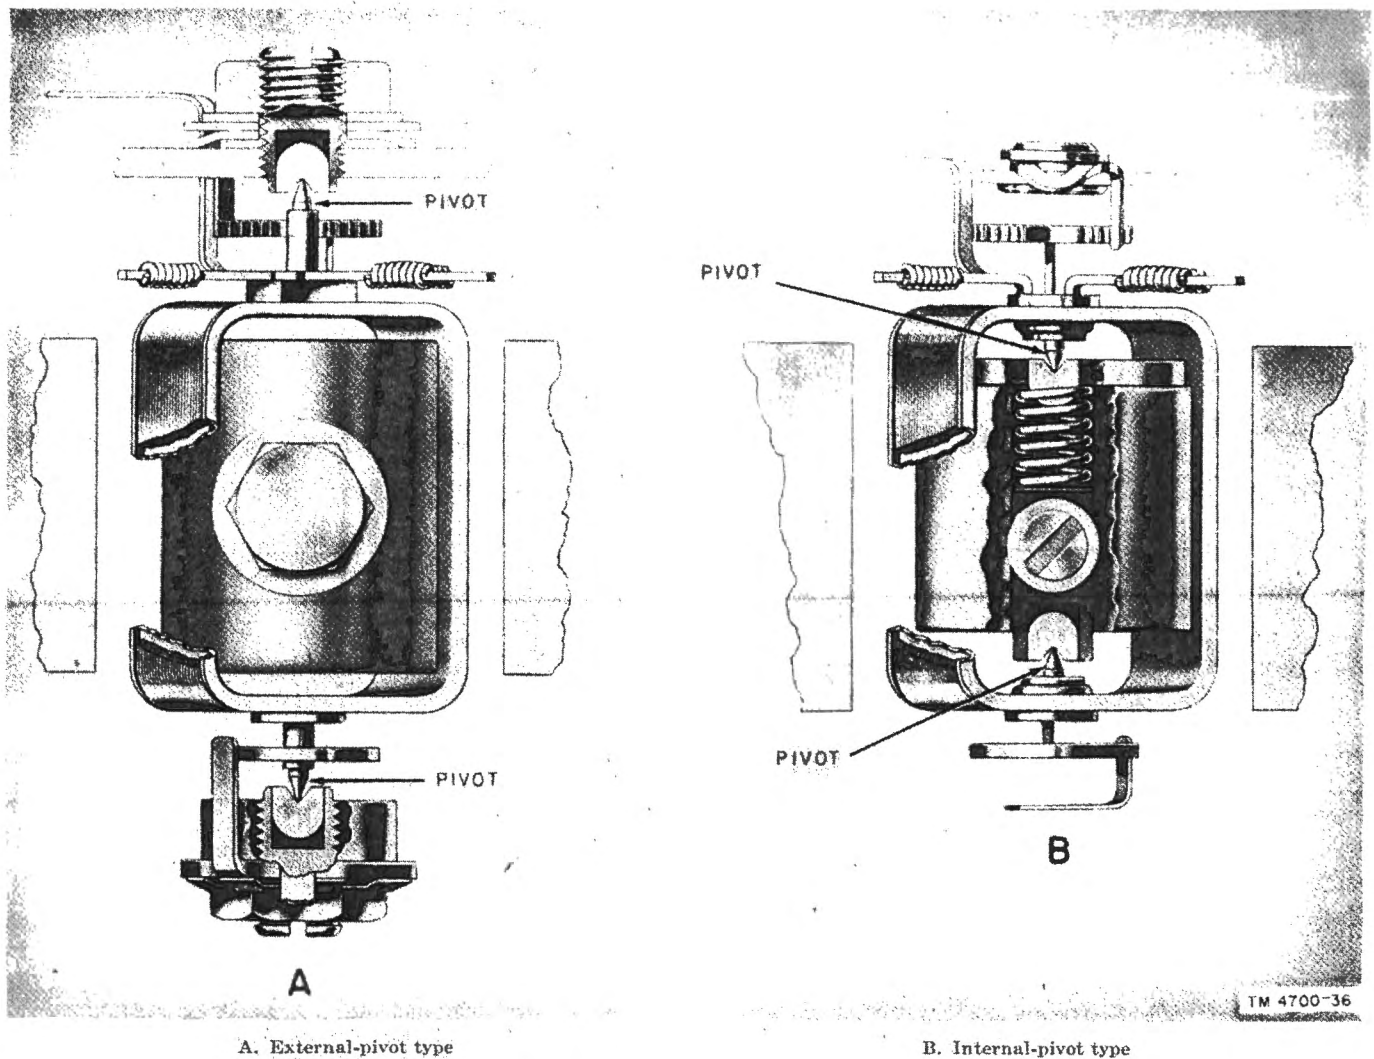

Figure 38. Two types of pivot arrangement.
- (1) In most meters, the pivots are mounted externally on the moving coil (A of fig. 38). To test end play in this type of movement, grasp the base of the pointer very gently with a pair of tweezers, and move the element up and down. If there is too much end play, tighten the jewel screws with a jeweler's screw driver until proper end play is obtained.
- (2) In the internal-pivot type of moving element (B of fig. 38), the pivots are mounted on the inside of the top and